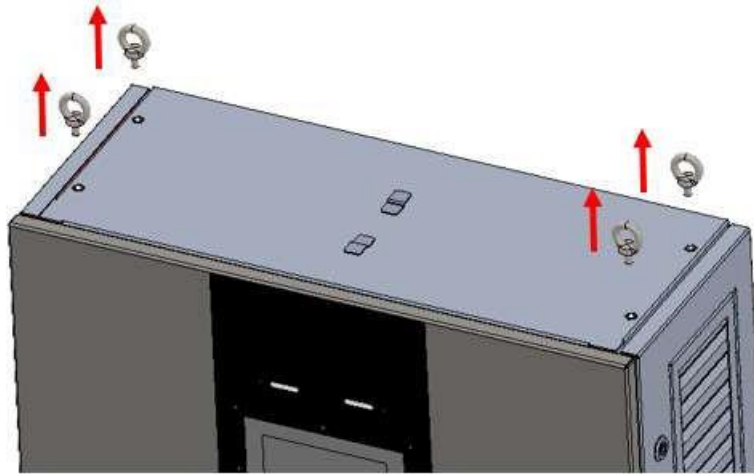

Figure 20 Removing the hoisting rings
(11) Select a drill bit of \varnothing 10mm and drill holes with a depth of about 70mm at the marked position in the previous step with a percussion drill. Drive M6 \times 50 expansion screws into the hole and fully tighten the 4 expansion screws. After installing connector holders, restore the removed black plugs.
(12) Remove the hoisting rings on the top of the charger main body as shown in Figure 20.